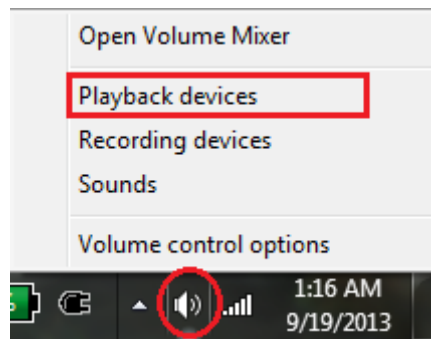

Figure 19: Opening Sound Properties window
- Open *Playback* tab in *Sound* properties window. (Select *Sound* from *Control Panel* or right click on the *Sound* icon in the *Task bar* as shown in Figure 19)